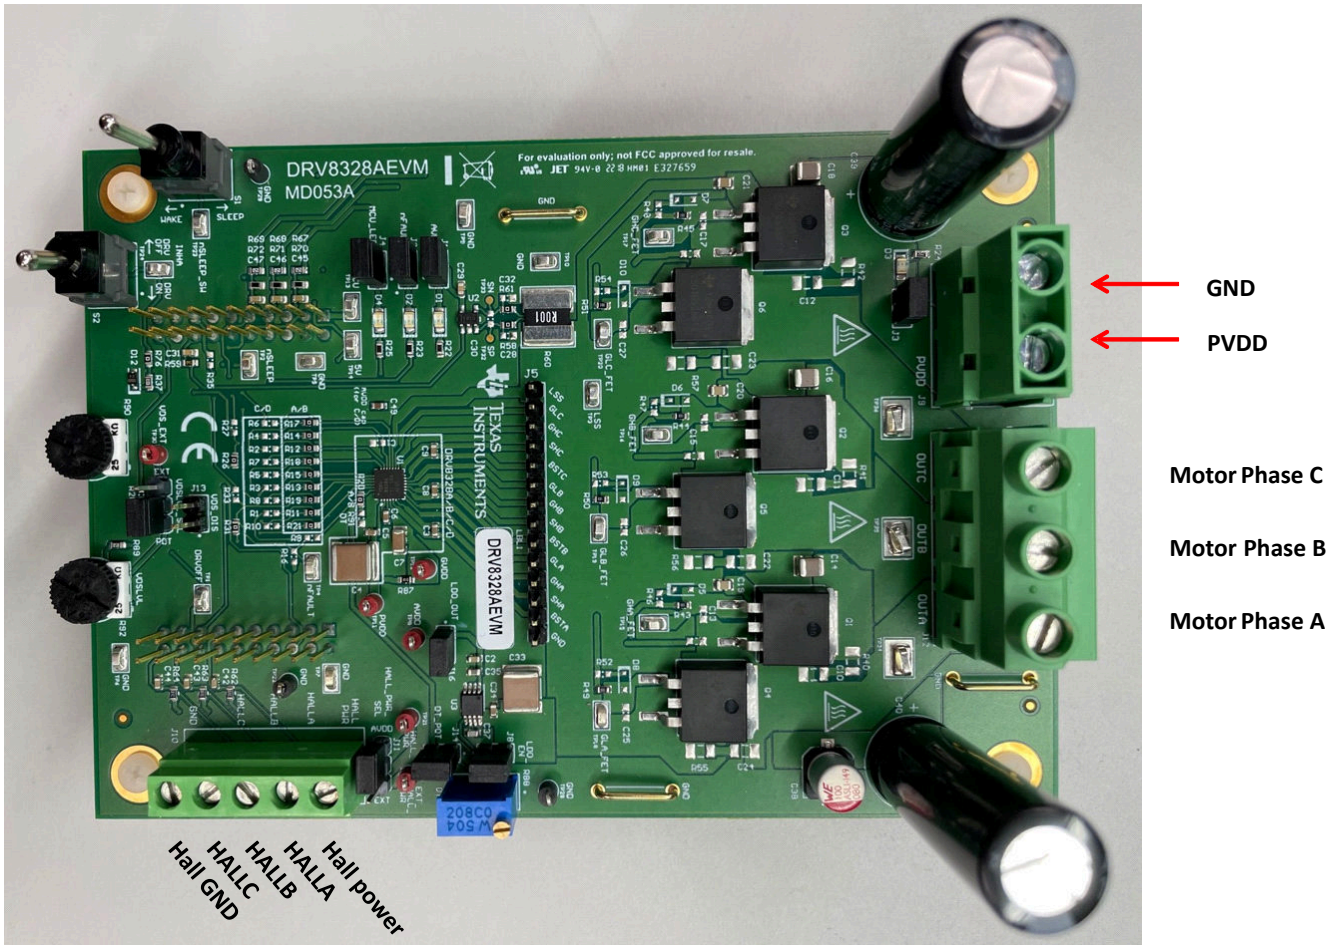

Figure 3-2. Connections from motor to DRV8328AEVM
2. Connect the motor phases to OUTA, OUTB, and OUTC in the correct order to connector J12. For sensed applications, connect the Hall sensors to the appropriate locations on the 5-pin connector J10 as shown in Figure 3-2. Select AVDD or EXT on jumper J11 to choose the Hall power source voltage.
Figure 3-2 shows the power supply and motor connections made to the DRV8328AEM in order to spin a 3-phase sensed or sensorless Brushless-DC motor.